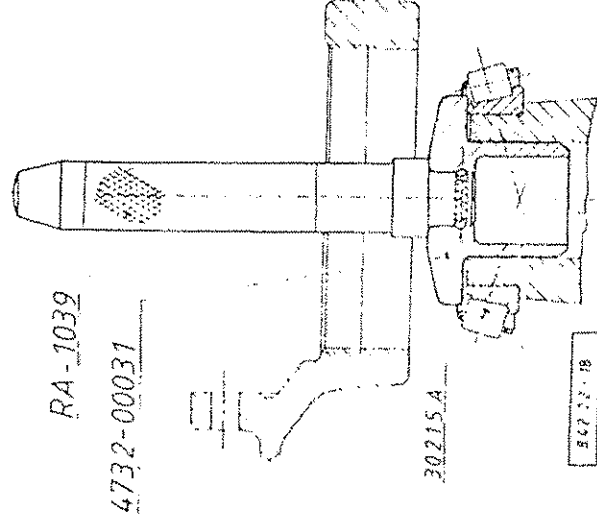

Fig. 2.: DRIVING ON THE TAPER ROLLER BEARING CONE
By means of the tool shown in Fig. 2. tap the differential toward the flanged differential case half (31) so, the outer race of the taper roller bearing (19) shall fall out.
Position the cone of the taper roller bearing (19) to the differential case half (24) and by means of the tool shown drive on to bottom out (see Fig. 2.).